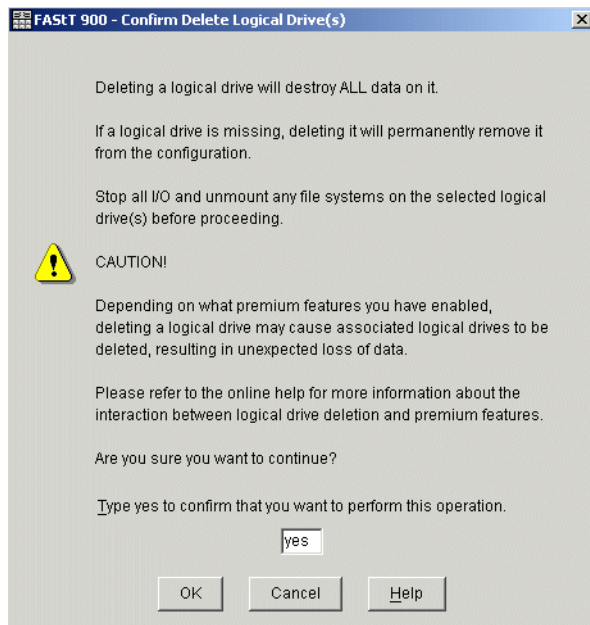

Figure 7-49 Confirm Delete Logical Drive(s)
4. The Confirm Delete Logical Drive(s) window opens (Figure 7-49).